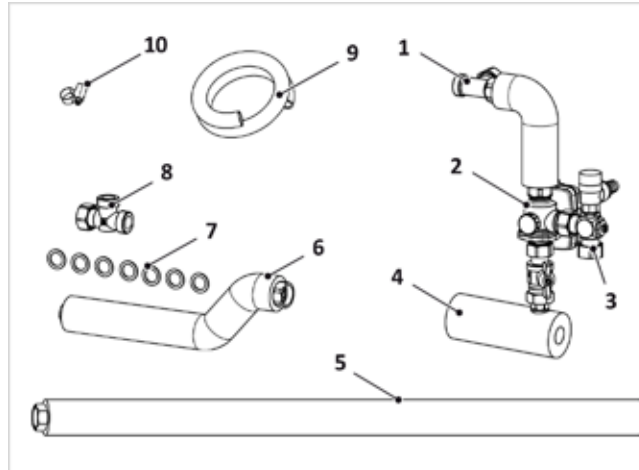
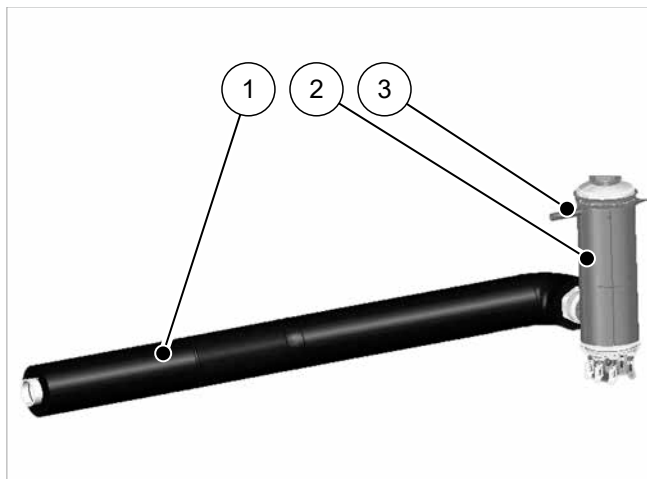

Fig. 2: Assembly pack for LM-WP 3-way valve:
Fig. 7: Heating cartridge with HP flow pipe
→ fig. 2, p. 7.
When the SolvisMax Solo is combined with SolvisLea Eco, the supplied heating cartridge must also be integrated into the heating pump flow in the WP-SL-VSG charging module. This "LM WP-SL HPT assembly pack" (→ fig. 7) replaces the "WP-VL connection pipe" here; see → fig. 2 (5).